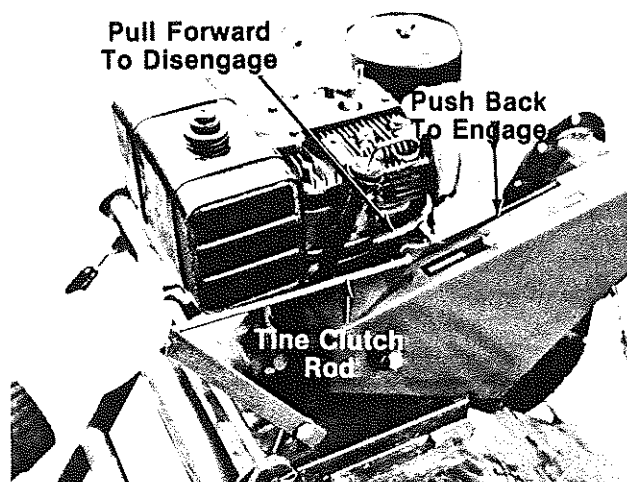

FIGURE 15.
1. Place the tine clutch rod in the **disengaged** position. See figure 15.